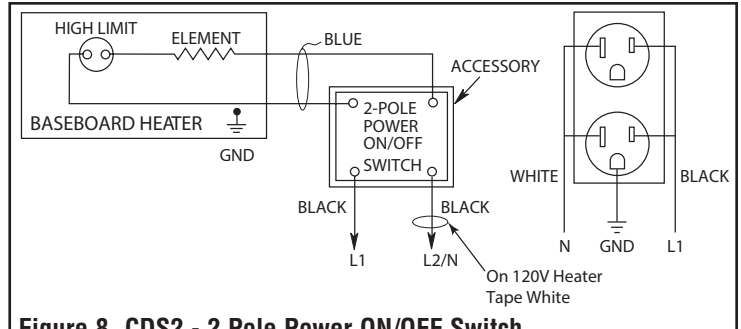

Figure 8. CDS2 - 2 Pole Power ON/OFF Switch With 120V Duplex Receptacle
6. Connect wiring to accessory using the appropriate wiring diagram. See Figure 8.
7. Replace accessory section cover by fitting the top of the cover under the top flange of the accessory section. Rotate bottom of cover into place and install the two (2) screws removed in Step 2.
| DSDR120  | 2 Pole Power ON/OFF Switch w/ 120V Duplex Receptacle | 20 Amps @ 120-277 / 15A @120V | See Figure 8   |